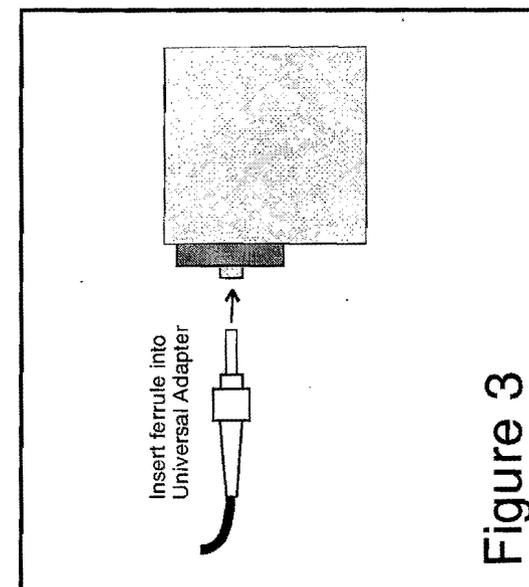

Figure 3
**1. Begin by loading the polished connector into the Universal Adapter.** Simply slide the ferrule (2.5mm) into the adapter until you feel it hit a stop (Figure 3). It may require a little pressure to get it started as our adapter is equipped with a no-slip gripping mechanism. It is important to slide the ferrule all the way to the stop. This will minimize any refocusing that needs to be done when changing from one connector to the next.